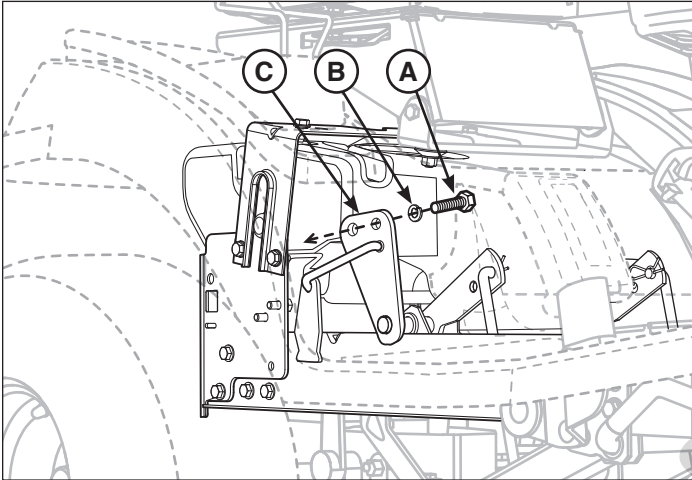

Figure 11
2. Insert .875” cap screw (A, Figure 11), lock washer (B) into top hole of mower lift arm (C).